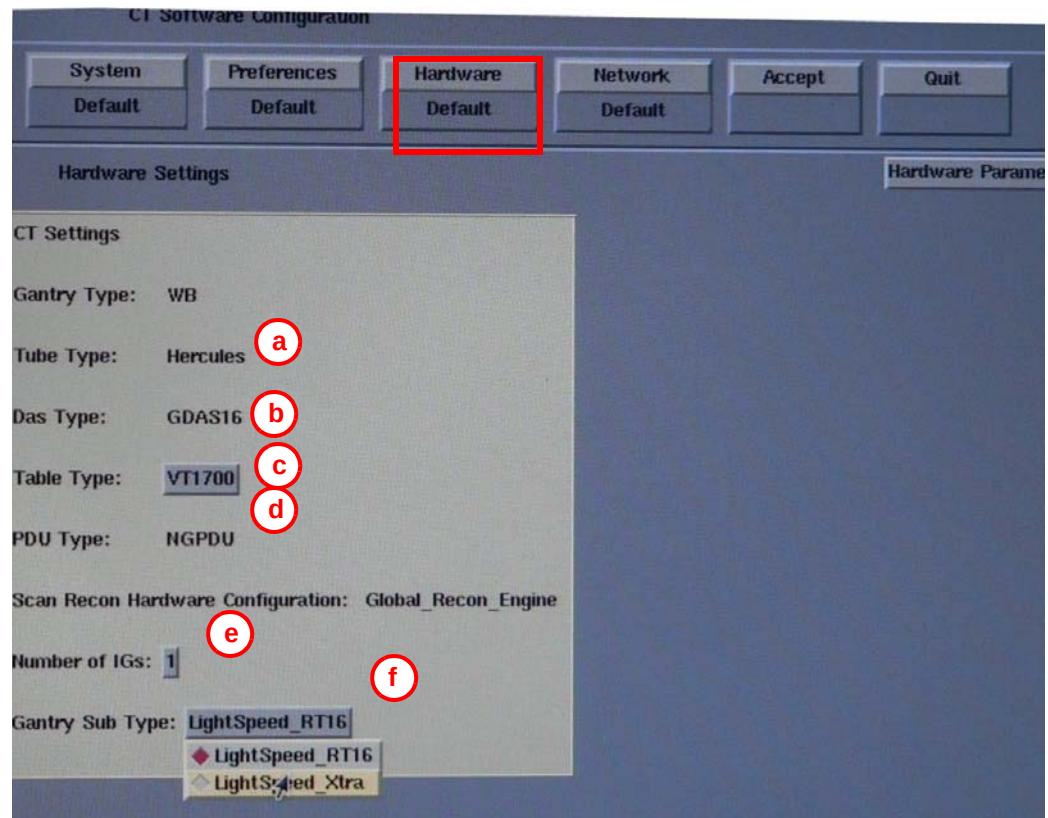

Figure 5-14 Hardware Settings Screen (example only - actual screen may vary)
- 8.) Select the HARDWARE button to display the Hardware Settings Screen (Figure 5-14).